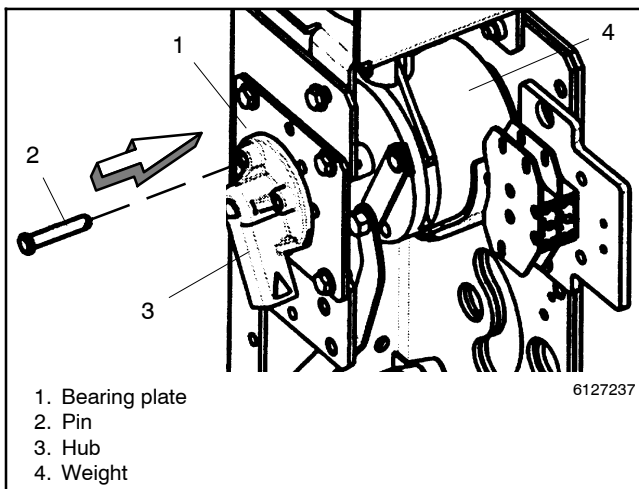

Figure 8-22 Weight Locking Pin
2. Insert the weight locking pin. To prevent the operator from moving during disassembly, insert the clevis pin through the hub and into the bearing plate. See Figure 8-22.
10. Remove the weight locking pin. To unlock the weight from the bearing plate, remove the clevis pin from the hub. This is very important! Otherwise severe damage will occur when transfer switch is reenergized! See Figure 8-22.